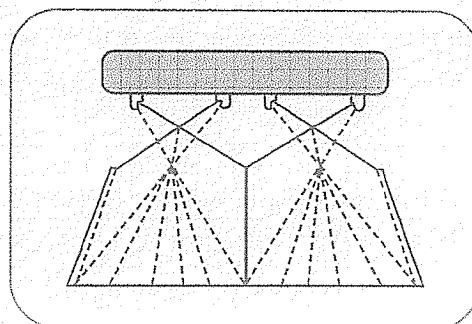

Figure 10 - Nozzle Spray Pattern
- Check to see if the nozzles are all spraying consistently and producing the spray pattern in Figure 10.